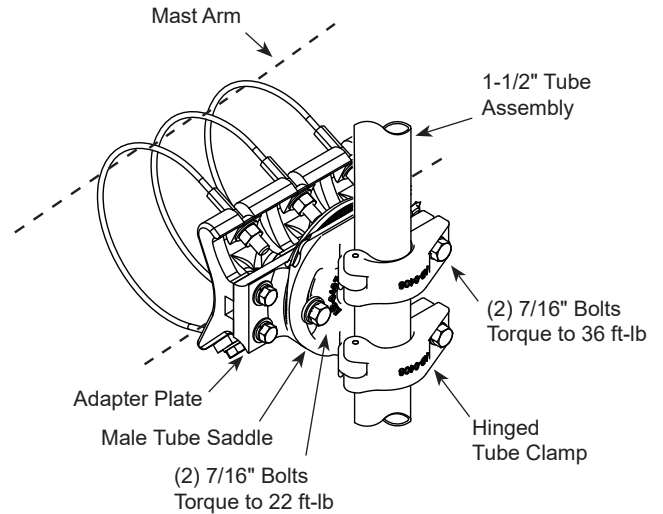

Figure 3
12. Mount the tube assembly into the hinged tube clamp. Tighten the (2) 7/16" bolts and evenly torque to 36 ft-lb. DO NOT OVERTIGHTEN. (Figure 3)
13. Install the hinged tube clamp assembly (with its attachments installed) onto adapter plate of the clamp. Position for either horizontal or vertical orientation and loosely install the (2) 7/16" bolts. (Figure 3)